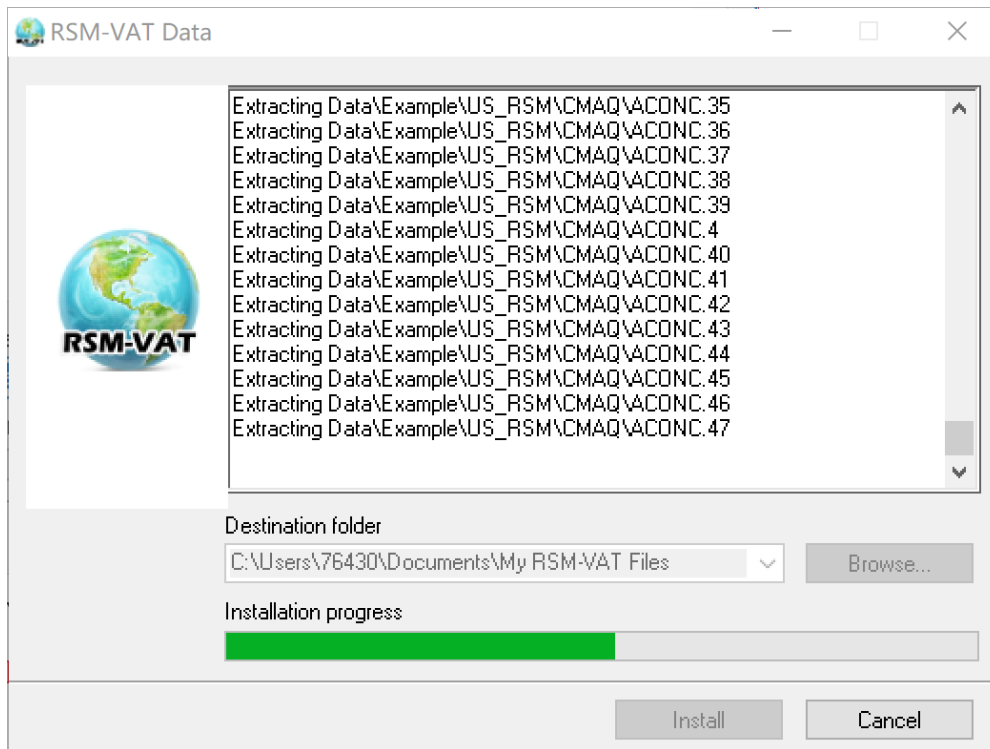

Fig. 7 Unzip Processing
- Click the “**Install**” button, Fig. 7 shows the unzipping process of the example data.